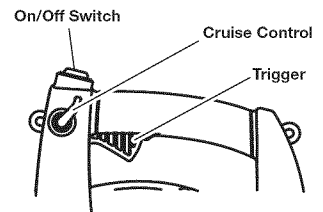

Fig. 8
NOTE: The unit should be started in idle. Do not squeeze the trigger until step 8 (Fig. 8).
8. Squeeze and hold the trigger, or press down the cruise control (Fig. 8), and allow the engine to warm up for 30 to 60 seconds.
2. Press and hold the On/Off switch in the OFF (O) position until the unit comes to a complete stop (Fig. 8).
10. Squeeze and hold the trigger, or press down the cruise control (Fig. 8), and allow the engine to warm up for 30 to 60 seconds.